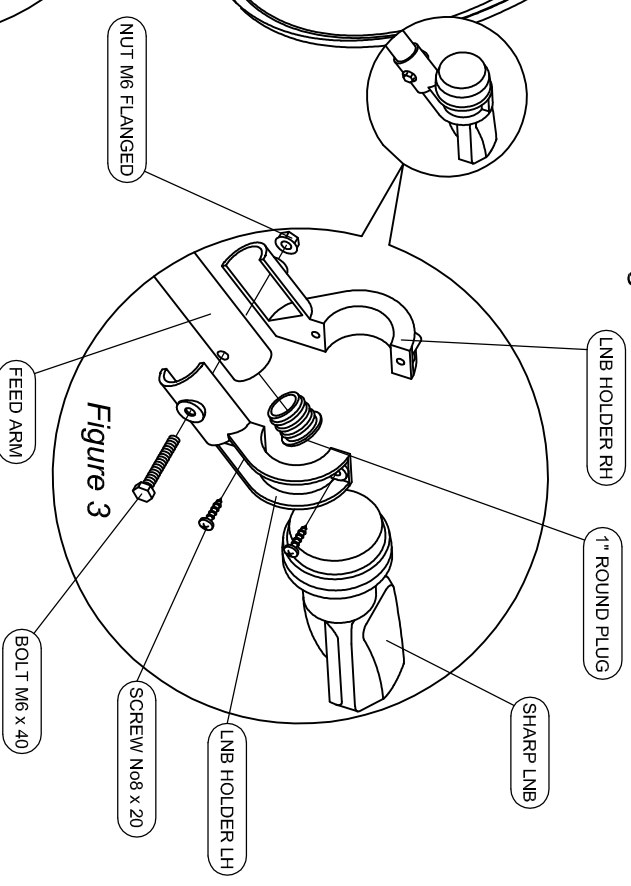

Figure 3
STEP 3 - Assemble the LNB unit by pushing in the round plug into the end of the feed arm. Place the 2 LNB holder halves around LNB & secure with 2 No8 x 20 screws. Place sub assembly over end of feed arm & place M6 x 40 bolt (ensure grey dull plated bolt & nut is used here) through holes & affix M6 flange nut & tighten. Refer Figure 3